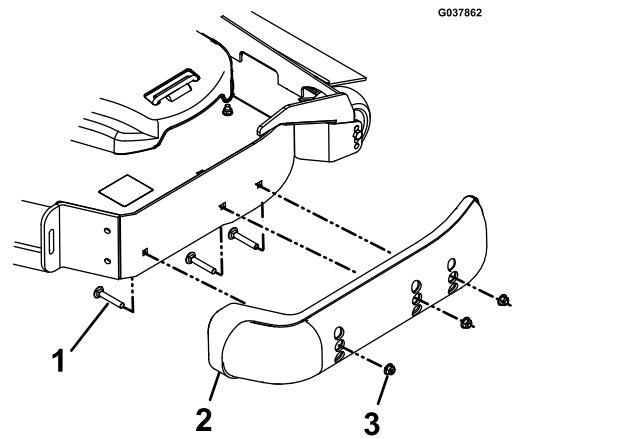

Figure 37
4. Remove the bolts and nuts from each bumper (Figure 37).